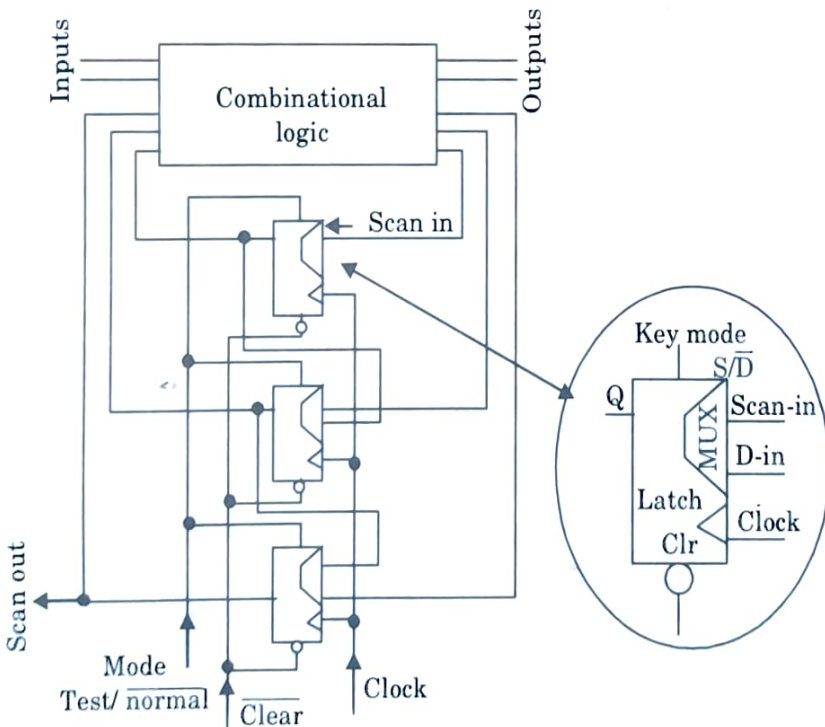

Fig. 5.13.1. Sequential circuit configured for scan path testing.
1. The sequential circuit for scan path is shown in Fig. 5.13.1.